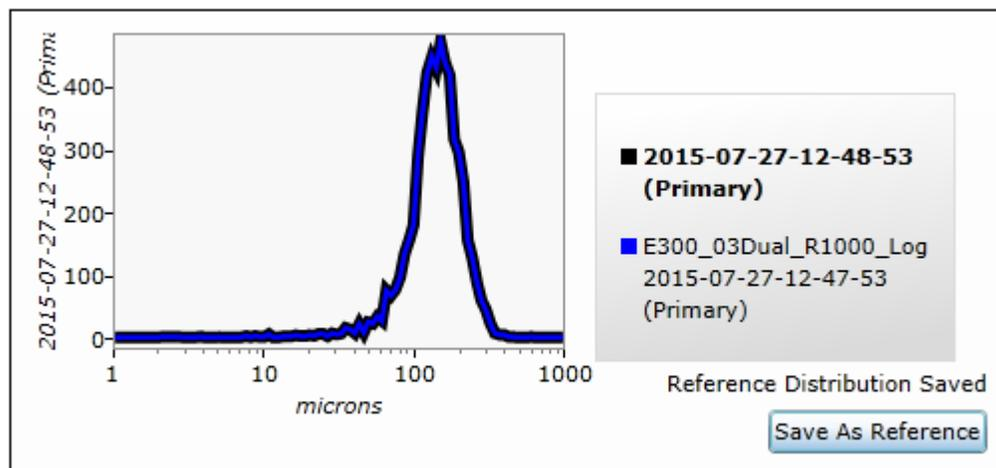

Figure 4-21 Saving a reference distribution during a live run
2. Observe the current distribution. When desirable, click the **Save as Reference** button on the bottom right side of the window. The system saves the selected distribution. The live distribution is always bold and black. The reference distributions are in a color. Figure 4-21 shows the message that appears after you save a distribution as a reference.)